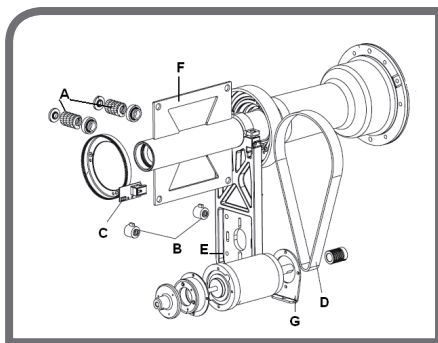
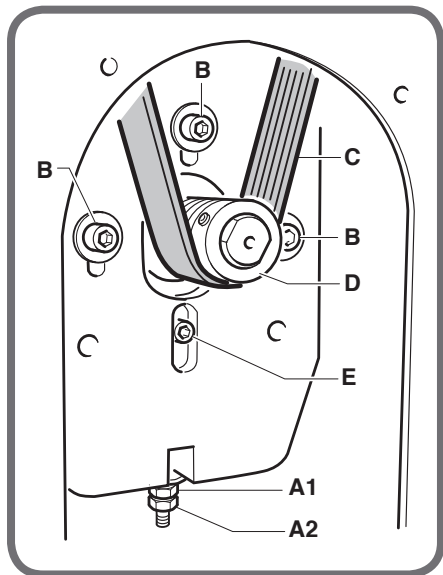

Fig. 10
Fig. 13
- loosen the pick-up pre-load springs completely (A, Fig.10);
- unscrew the two M10 dowels and replace the pick-ups (B, Fig. 10) with the new ones;
- completely unscrew the 2 screws that hold the pre-load springs (A, Fig. 10) of the pick-ups;
- unscrew the two M10 dowels that fix the pick-ups (B, Fig. 10);
- remove the belt (D, Fig. 10) as described in the paragraph "Replacement and adjustment of the belt";
- disassemble the motor support (E, Fig. 10), unscrewing the two M8 fixing screws;
- remove the swinging unit (F, Fig. 10) after unscrewing the four M12 fixing screws and the relative locknuts;
- Unscrew the nut and locknut used to tighten the belt (A1, A2, Fig. 13);
- Loosen the three motor fixing screws (B, Fig. 13) on the motor support;
- Disassemble the belt (C, Fig. 13) and replace it with the new one;
- Block the motor fixing screws (B, Fig. 13).
- Unscrew the two nuts of the belt tightening screw (A, Fig. 13);
- Loosen the three motor fixing screws (B, Fig. 13);
- Disassemble the belt (C, Fig. 13) from the motor pulley (D, Fig. 13);
- Remove the motor with the flange (G, Fig. 10) from the aluminium support (E, Fig. 10);
- Unscrew the screw fixing the motor (E, Fig. 13) to the flange (G, Fig. 10);